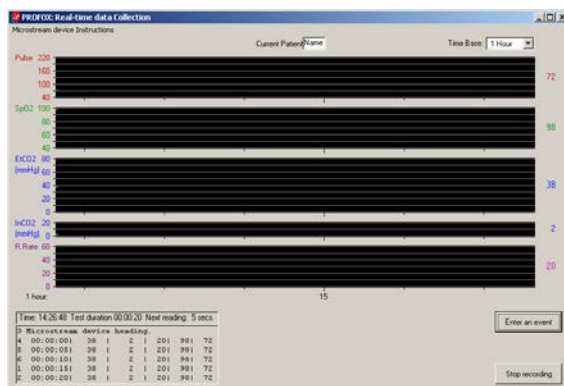

Figure 27. Profox Real-time Data Collection Screen During Data Transfer
2. Figure 27. Profox Real-time Data Collection Screen During Data Transfer, below, shows the screen during successful data transfer.